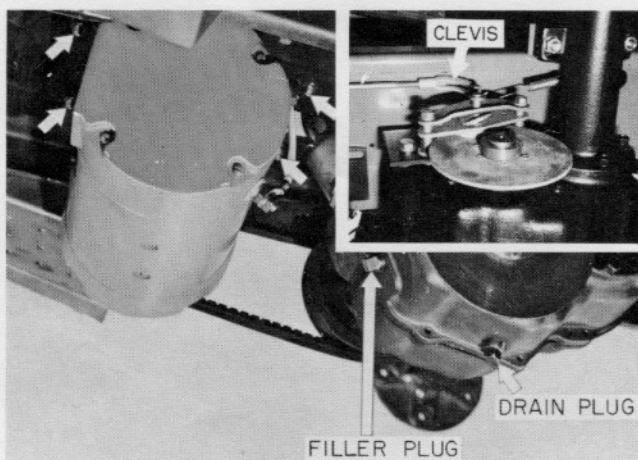

Figure 11. Brake, Transaxle, and Motor Mounting
H. Page 13: Replace Figure 11 with:
A fully depressed brake pedal or an engaged parking brake should prevent the tractor from rolling on average inclines. If the brake does not perform satisfactorily, the following adjustment may be made: (See Figure 11.)